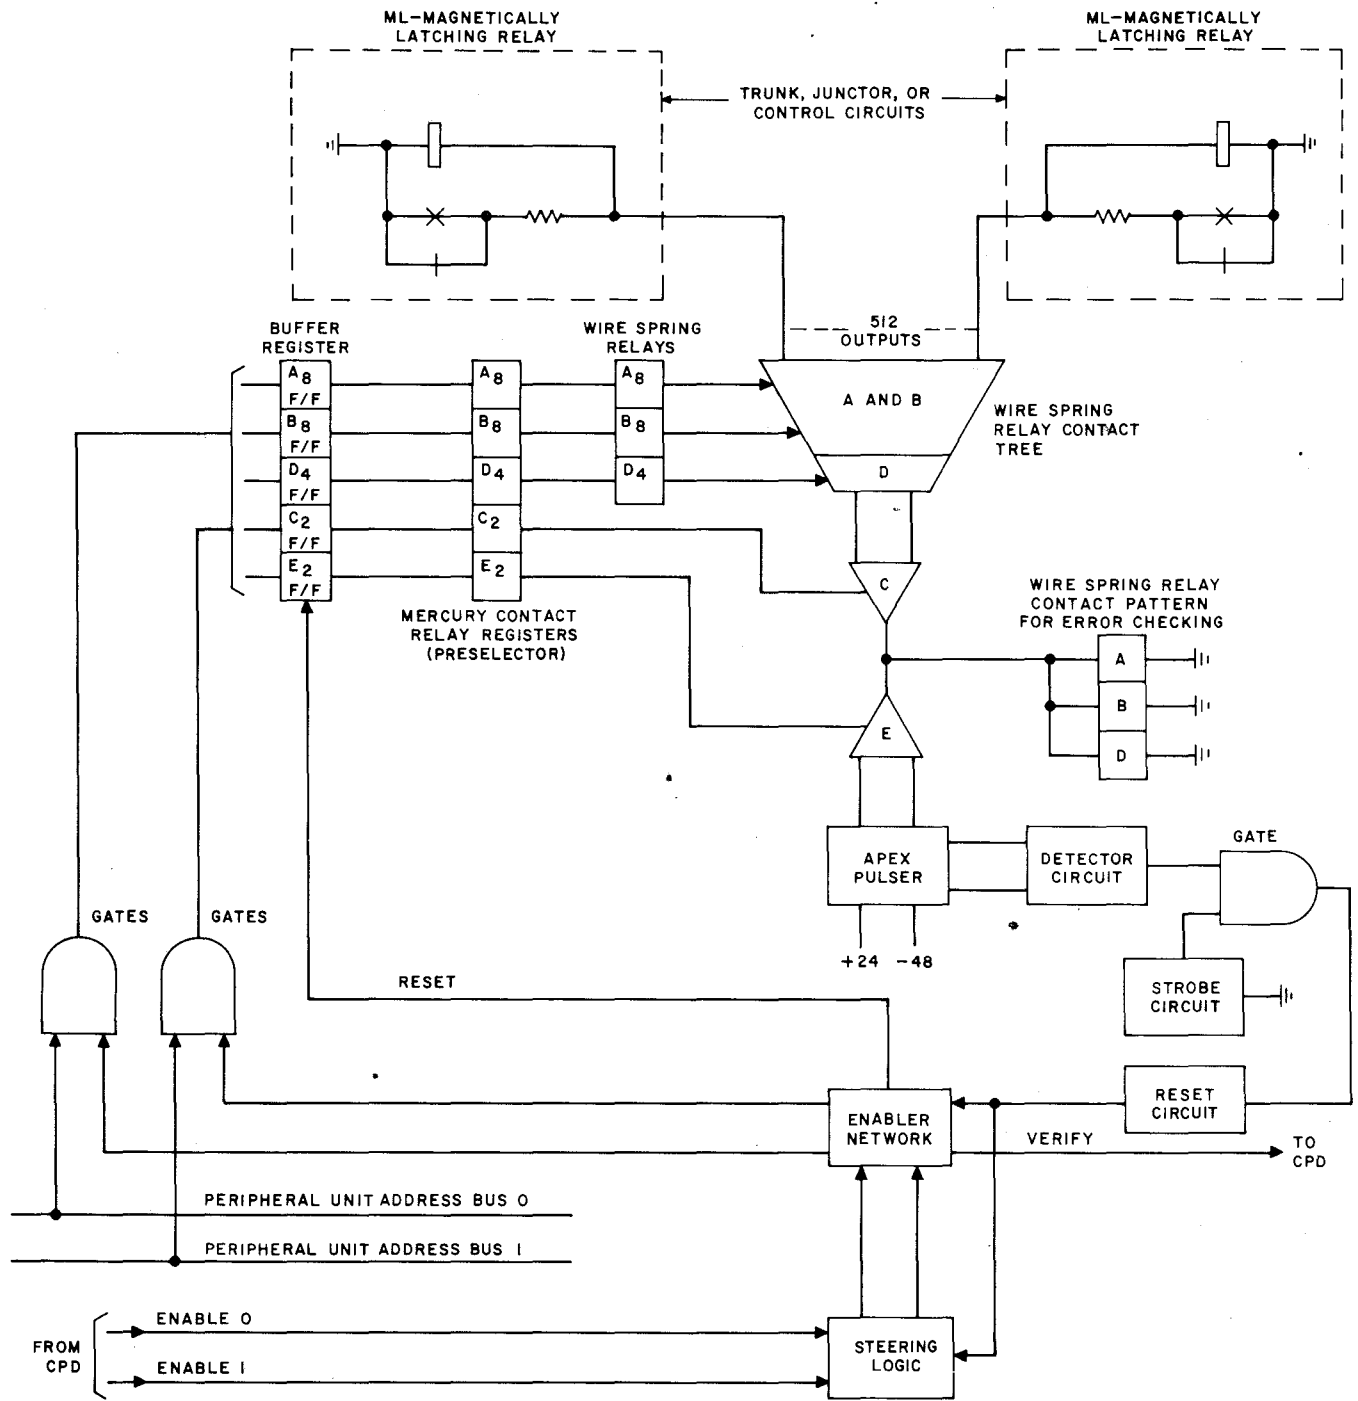

Fig. 1—Basic Signal Distributor
2.01 The signal distributor starts an operational cycle when the **Central Pulse Distributor (CPD)**, as instructed by **Central Control (CC)**, transmits an enable signal over a private bus. This causes a particular signal distributor to gate the selection data from the peripheral unit address bus into its buffer register (Fig. 1). The buffer register stores this data until the selected magnetic latching relay has operated or released. When the signal